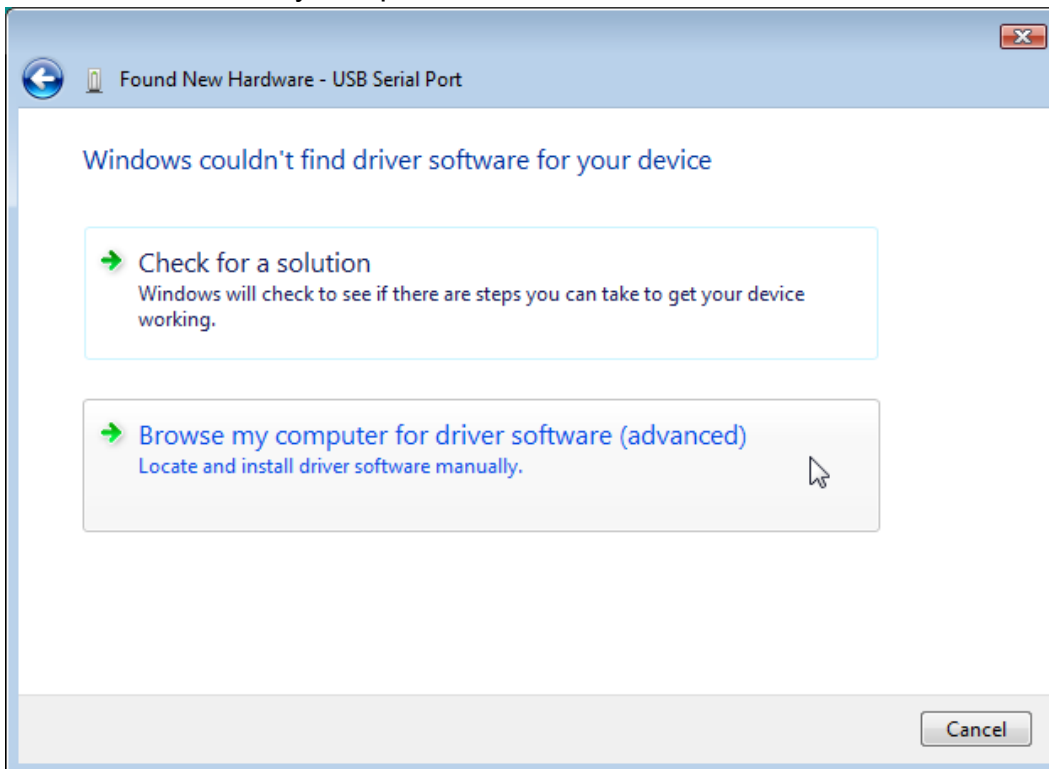

Fig. 14 – Dialog window for locating driver software manually
- 3) The window shown in Figure 14 contains the “COM Port Number” field. This field shows the current COM port number. The field enables AD4USB port number from 1 to 255 to be selected from a drop-down list. (If you want to allocate a port which is being used by another device, the change will become effective after the original device is allocated with a different port number.)